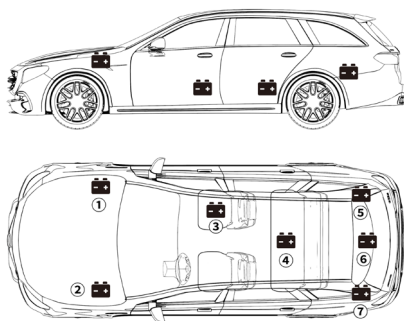

Figure 3.3.1
- 1) Most models hold the battery in the engine bay, under the hood, in one of the front corners. See battery location ① and ② in Figure 3.3.1.
- 2) To balance uneven weight distribution, some manufacturers hold the engine in the trunk. See battery location ⑤, ⑥, and ⑦ in Figure 3.3.1. In this case, the battery may have a plastic cover that should be removed prior to any testing.
- 3) For some models, the battery might be stored underneath the rear seat. See battery location ④ in Figure 3.3.1.
- 4) For other vehicles, the battery can be located underneath the passenger seat. See battery location ③ in Figure 3.3.1.